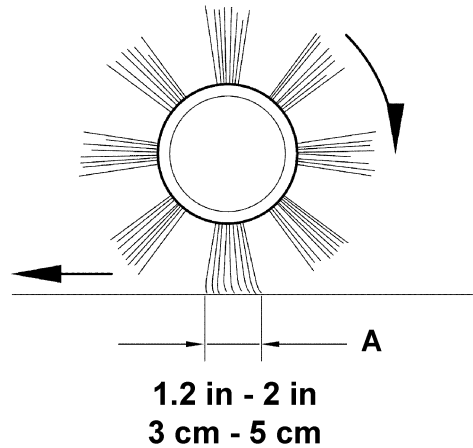
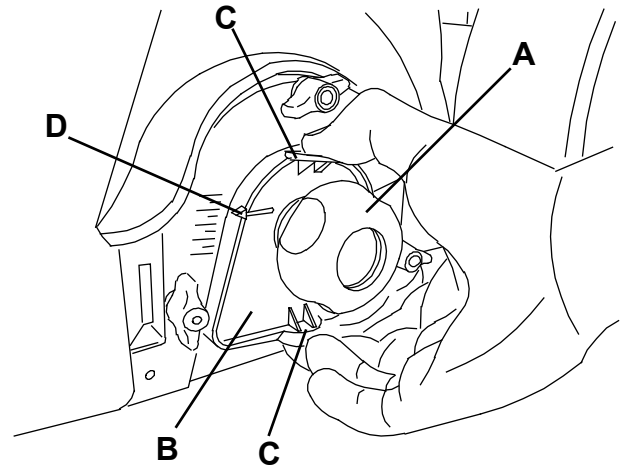

Figure 3
Figure 4
- Turn off the main broom by pressing the switch (1), then move the machine.
- Check that the main broom print (A, Fig. 3), along its length, is 1.2-2 in (3-5 cm) wide.
2. Turn the main switch (1) to "0".
3. On both sides of the machine, loosen the knob (A, Fig. 4).
4. Grasp the support (B) on the points (C) and move it upwards, then lift it or lower it to change the main broom height. For height variation, refer to the indicator (D). Then tighten the knob (A) on both sides of the machine.